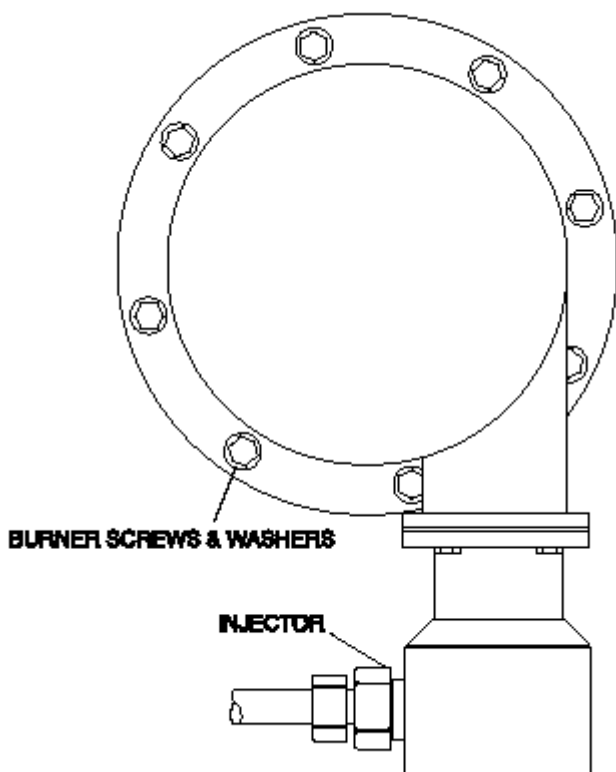

Fig 13.2
- b. Disconnect lead at electrode and at ignition controller. Burner Fig.13.2 a Refer to General above. b Remove two M4 screws holding fan to burner, also air inlet elbow retaining screws. Pull fan away from burner and rest on ledge formed by cross brace. Disconnect air sense tube and check that it remains supple and free from splits etc. Release both union nuts on gas pipe.